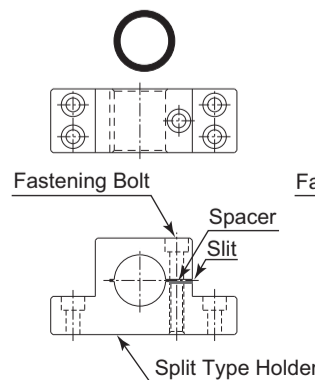
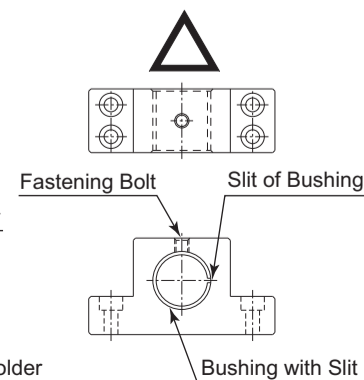

Fig. 7
Fig. 8
- ② When installing a Spindle to the holder, recommended installation method is shown Fig 7. Refer to "③ How to fabricate the Split Type Holder ". If this is not possible, install as shown in Fig. 8.